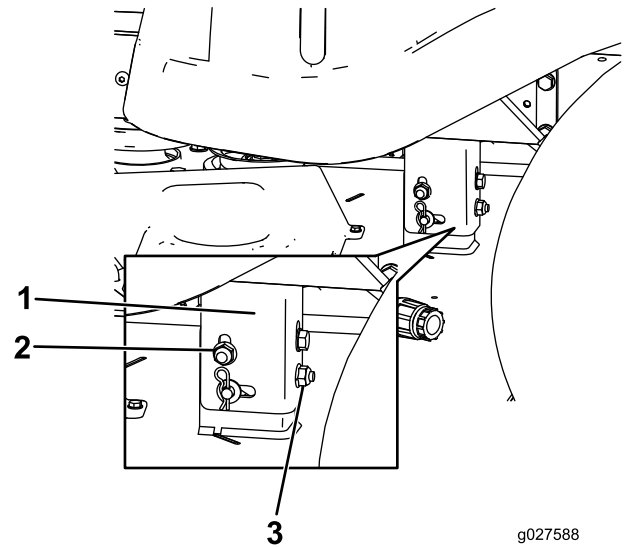

Figure 58
8. Raise or lower the left side of the mower deck by rotating the rear nut (Figure 58).